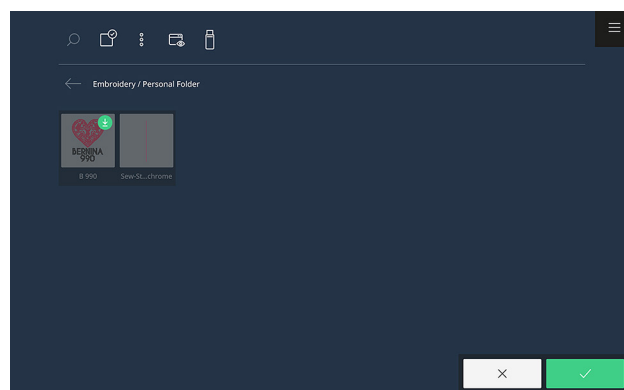

Fig. 53
16. Confirm again to save the design in the Personal Folder (Fig. 53).